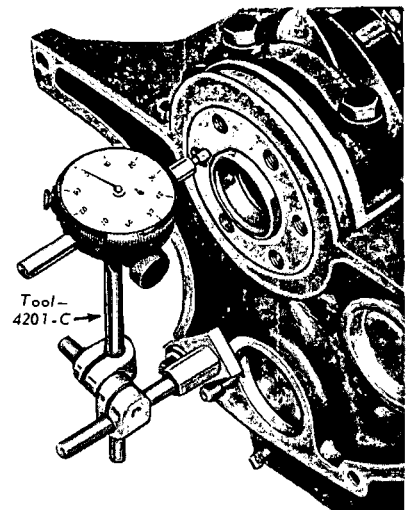

FIG. 63—Crankshaft End Play
17. Install a dial indicator so that the contact point rests against the crankshaft flange and the indicator axis is parallel to the crankshaft axis (Fig. 63).